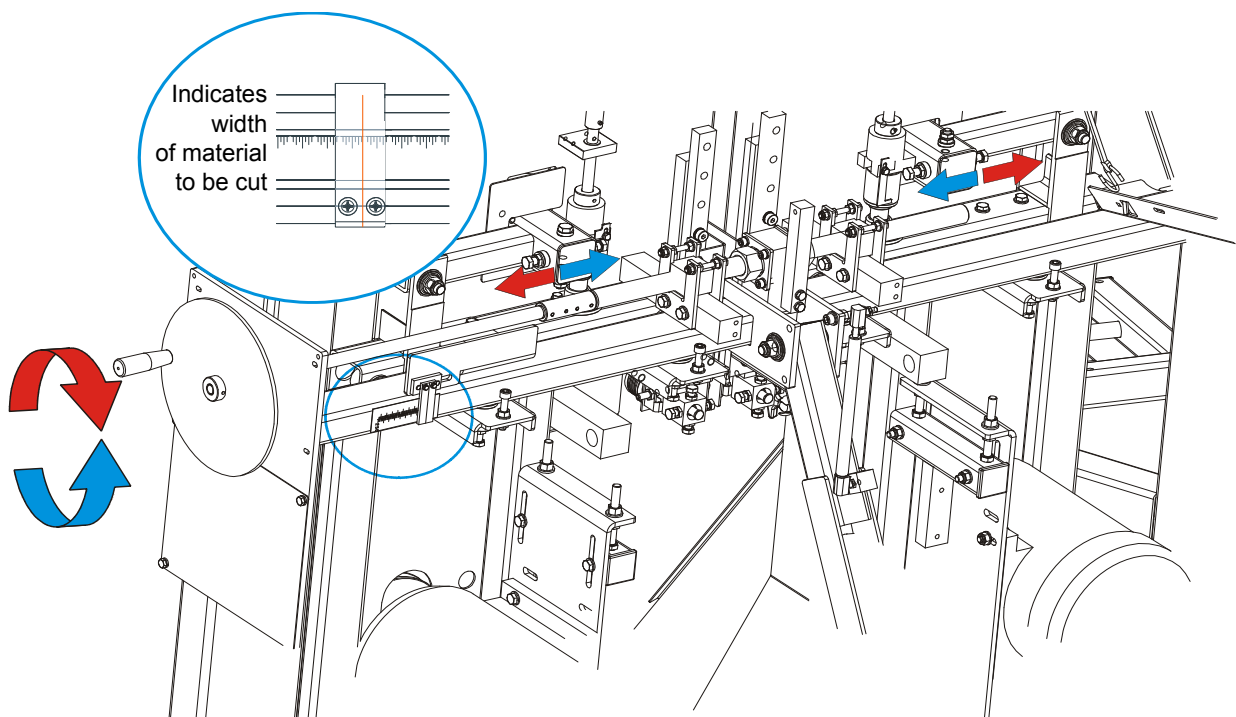

FIG. 2-13
**See Figure 2-13.** To move the saw heads in, turn the handle left. To move saw heads out, turn the handle right.